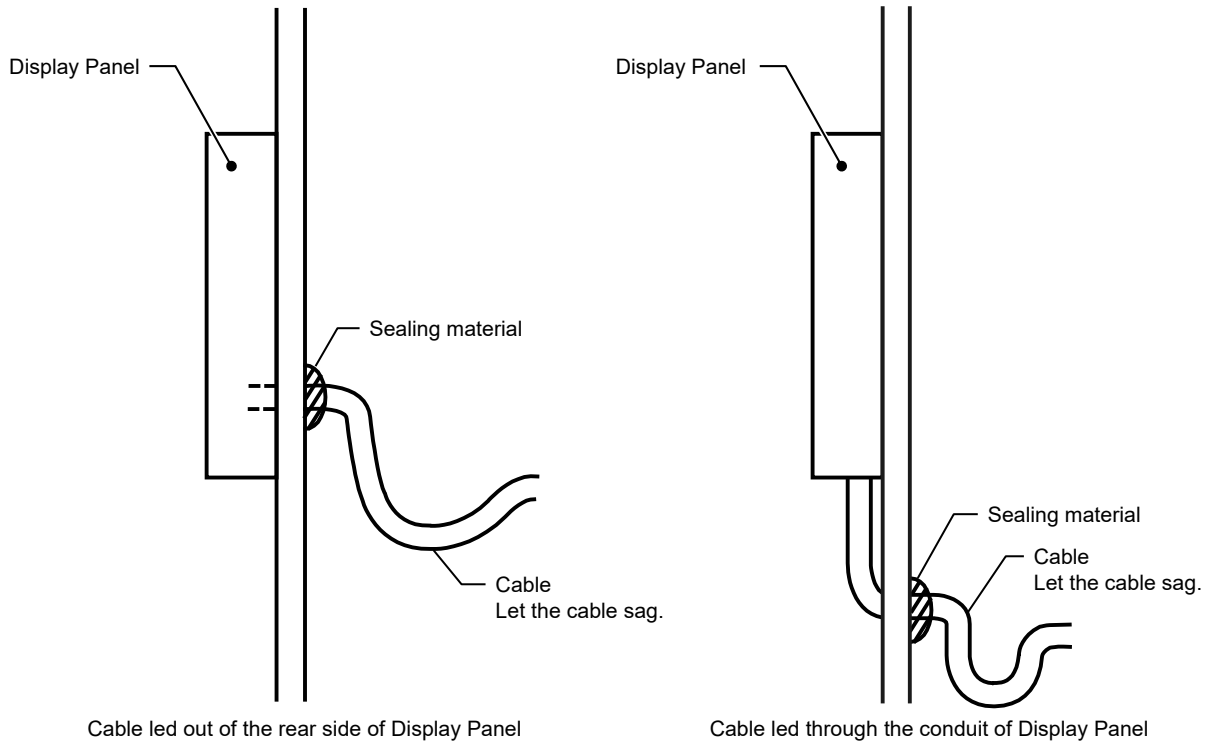

Figure 12. Cable arrangement
- To prevent water from flowing down to Display Panel through the cable, let the cable sag, as Fig. 12 shows.
- When installing Display Panel on an AHU side plate, seal the wiring hole on the AHU side plate, as Fig. 12 shows. Damp or dew condensation may damage the Display Panel, otherwise.